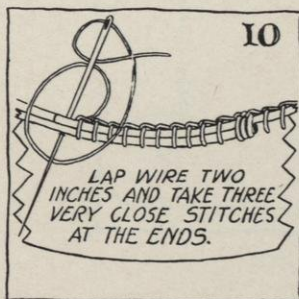

FIG. 10.
- b. When you reach the place where you started, lap the wire 2 inches above the part already sewed, and keep it very close to this part. Where the wire is double, make your stitches close to the upper piece of wire so that both pieces of wire will be flat on the headsize band. Make two or three stitches close together near the ends of the wire so that the ends cannot get loose or stick out (see Figure 10).